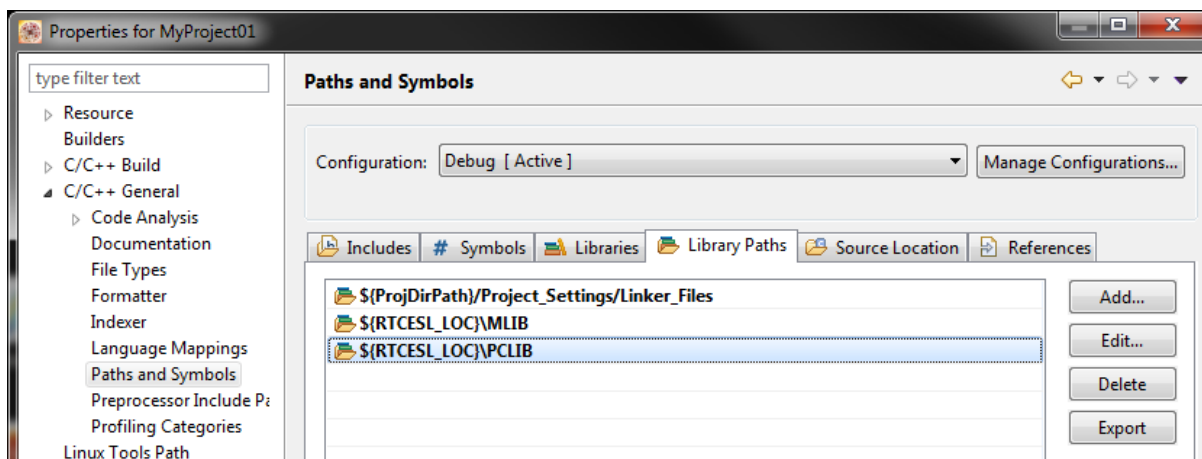

Figure 1-20. Library paths
3. In the right-hand dialog, select the Library Paths tab. See Figure 1-20.
8. Click OK, and the will be visible in the list. See Figure 1-20.